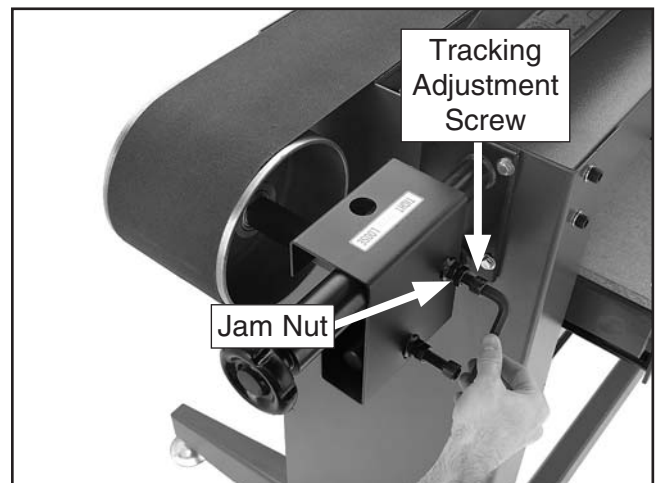

Figure 49. Belt tracking adjustment.
2. Loosen the jam nut on the belt tracking adjustment screw (**Figure 49**).